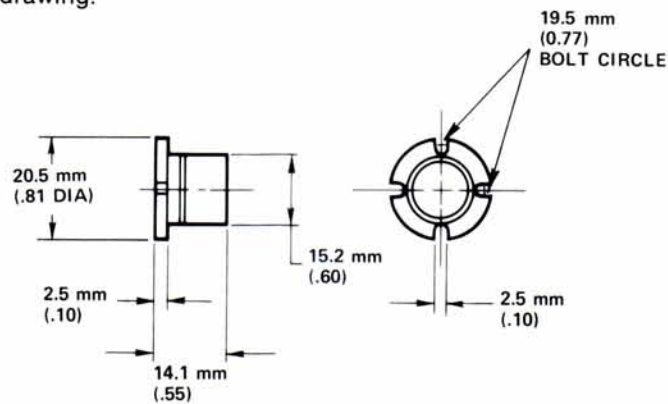

Figure 2-22. 10704A Retroreflector Specifications
- e. 10704A Retroreflector Specifications, see *Figure 2-22*.